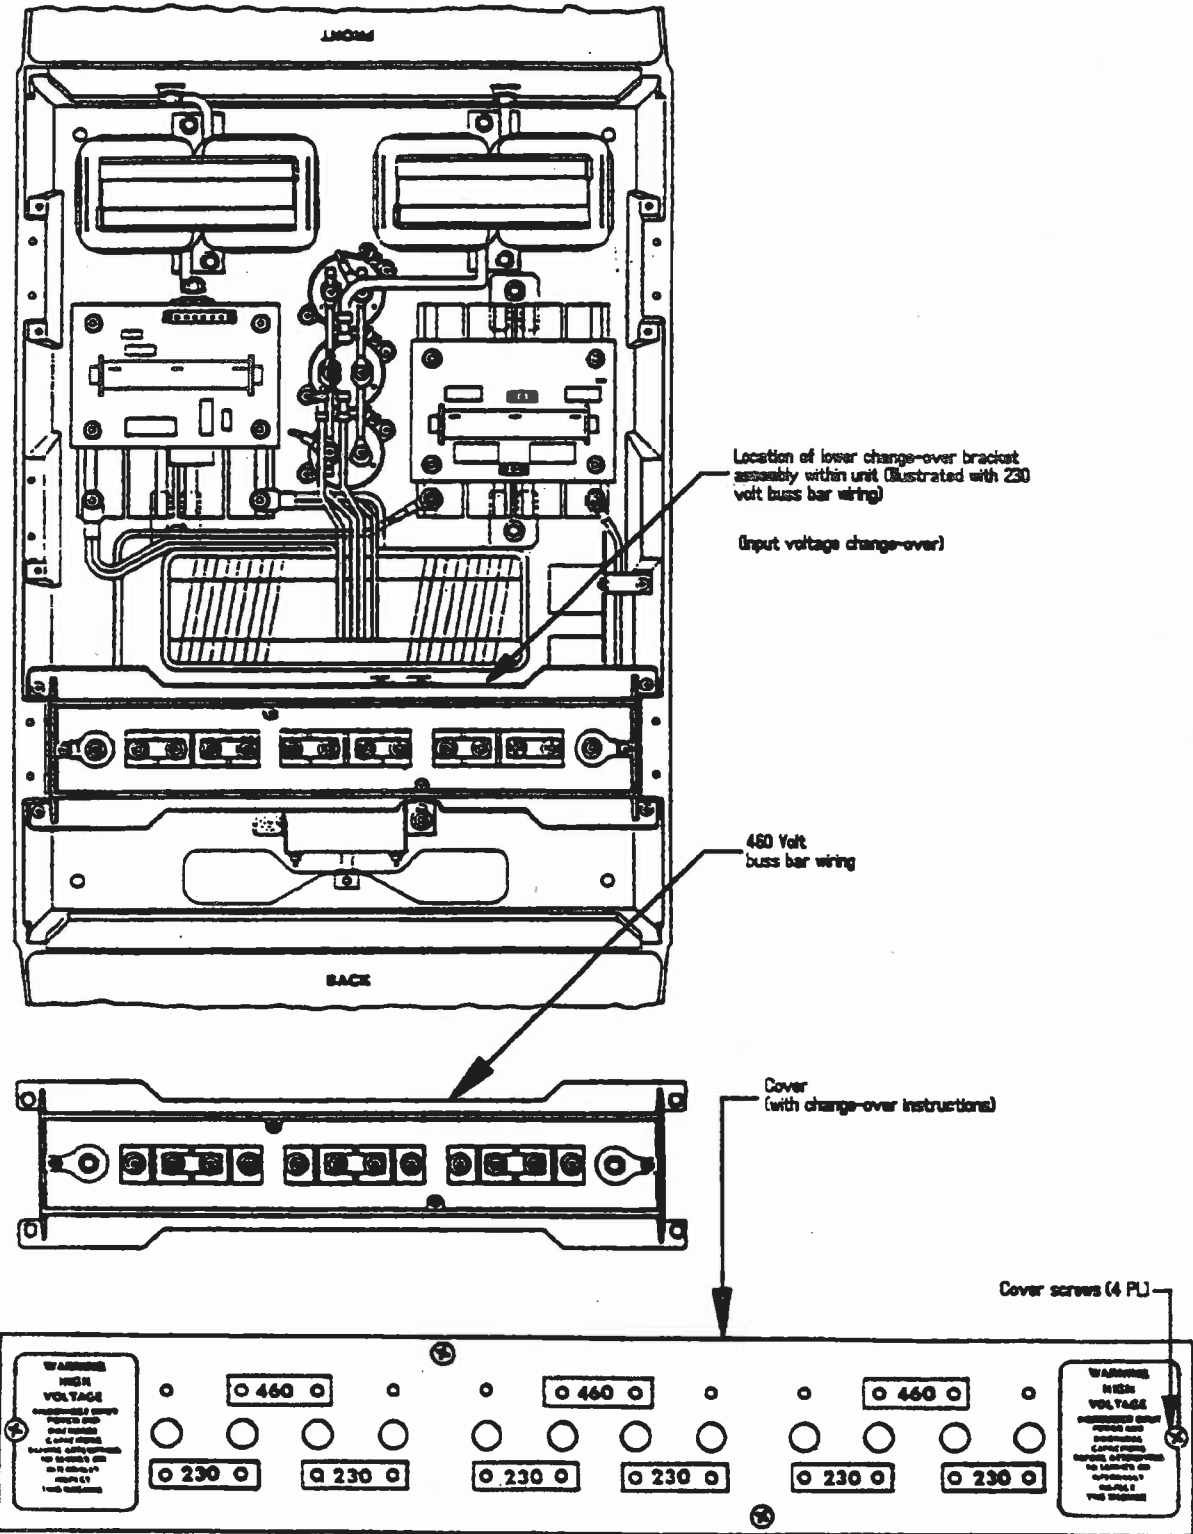

Figure 5, Location 2, Lower Voltage Change-Over
A) Locate and read the instructions located on the cover of the lower change-over bracket assembly (shown in location 2, Figure 5).